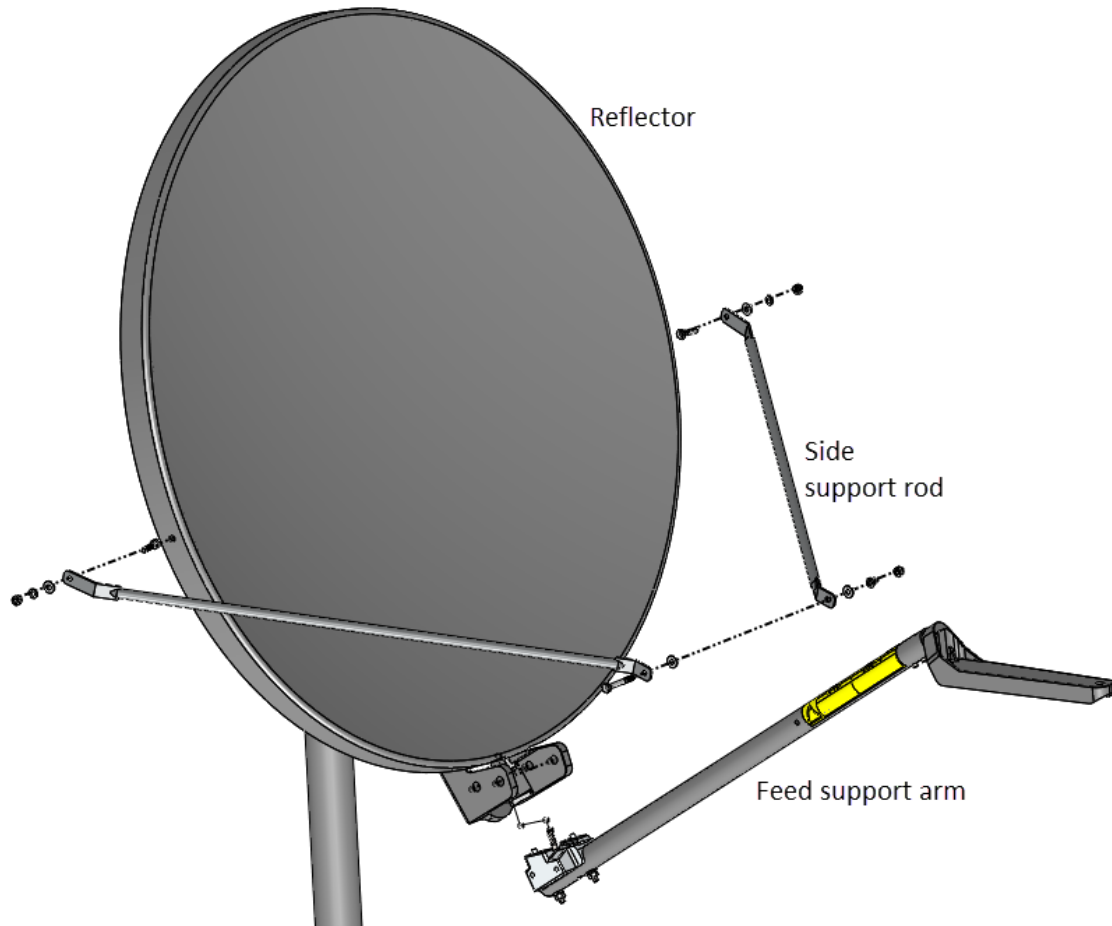

Figure 12: Side support rod and feed support arm installation
To install the feed support arm (Figure 12):
2. Loosely attach the feed support arm to the side rods using a single  $\frac{1}{4}$  x 2 inch hex bolt and two  $\frac{1}{4}$  inch flat washers, a lock washer, and a hex nut. The washers must be placed on both sides of the feed support arm, as shown in Figure 12.